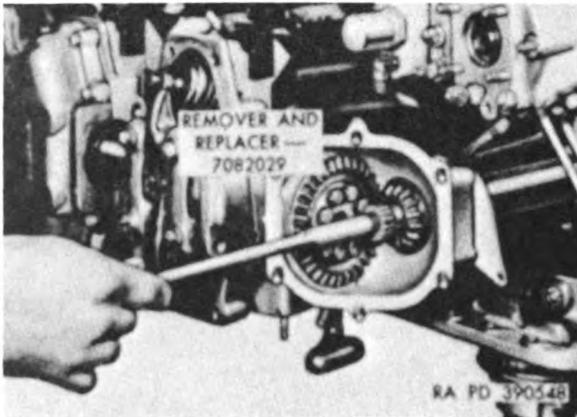

Figure 44. Removing or installing camshaft drive shaft.
- (3) Remove camshaft drive shaft with remover and replacer 7082029 (fig. 44).